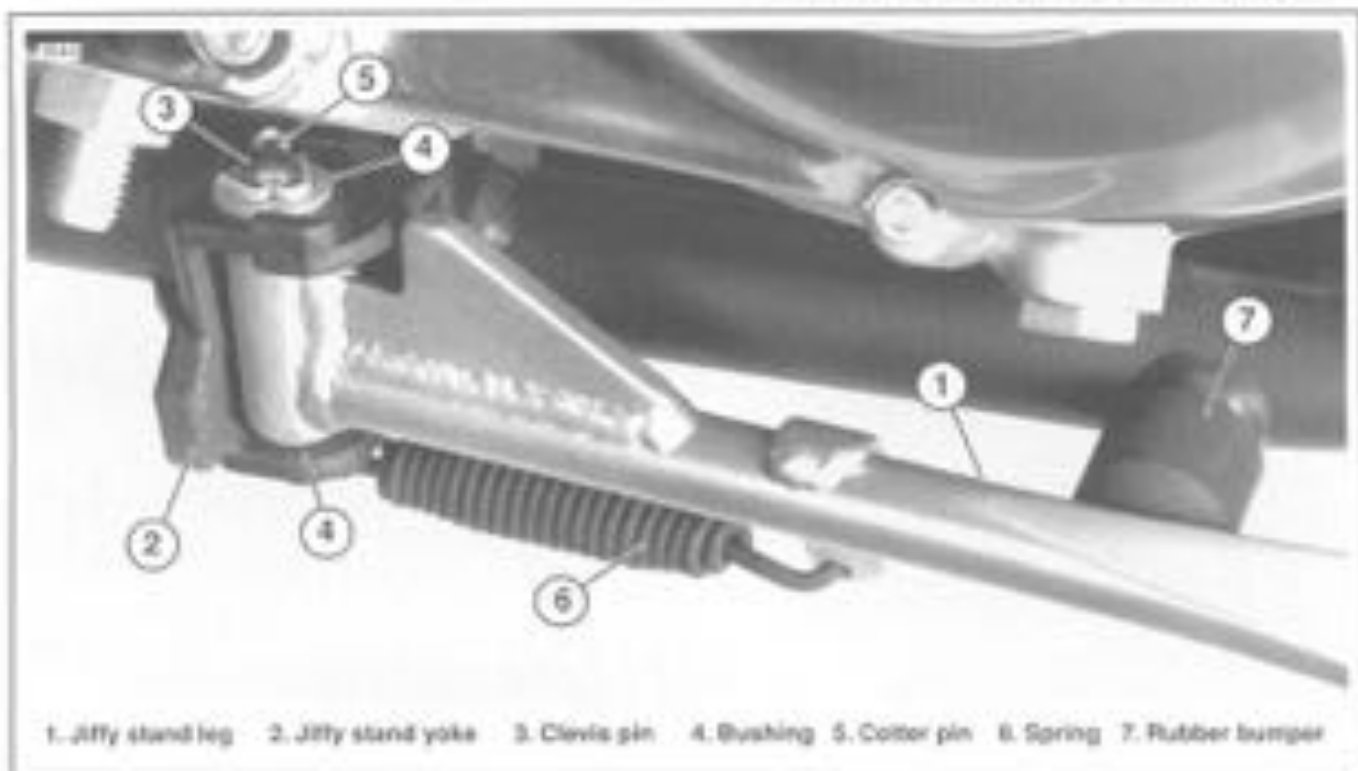

Figure 2-94. Jiffy Stand in Retracted Position
2. See Figure 2-94. Remove rubber bumper (7) from frame to permit further retraction of jiffy stand leg (1). Additional spring tension relief allows for easier spring removal.
3. Place jiffy stand leg (1) in retracted position. Remove and discard cotter pin (5).
3. While holding end of spring (6) in groove of anchor pin and holding jiffy stand leg (1) in its retracted position, position pivot end of jiffy stand leg within yoke (2) on motorcycle frame. Insert clevis pin (3) through lower pivot hole of yoke and halfway into pivot hole of jiffy stand leg.
4. See Figure 2-94. Lift jiffy stand leg (1) upward, aligning pivot hole of jiffy stand leg with slotted upper hole of yoke (2). With shoulder down, position bottom bushing (4) over clevis pin (3). Insert clevis pin (3) through holes in jiffy stand leg and yoke.
5. Install upper bushing (4) over end of clevis pin (3) and against upper surface of yoke (2). Insert new cotter pin (5) through hole in end of clevis pin. Bend ends of cotter pin apart to secure.
6. Press rubber bumper (7) onto mounting stud on motorcycle frame.
7. Extend and retract jiffy stand leg several times to check for proper operation. In retracted position (up), jiffy stand leg should be securely seated against frame-mounted rubber bumper (7).